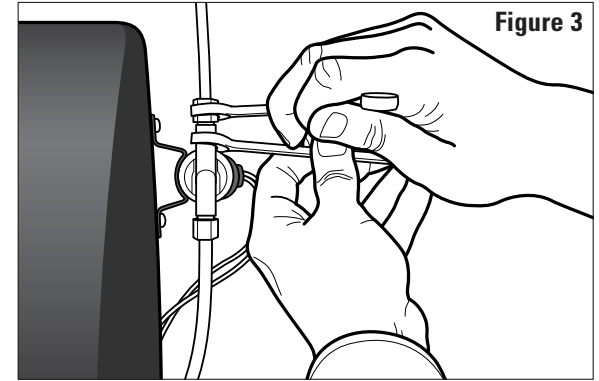

Figure 3
8. Connect tubing from the saddle valve to the inlet side of the solenoid valve using 1/4" O.D. copper tubing (not furnished). **DOUBLE WRENCH TO PREVENT LEAKING!** (See Figure 3)